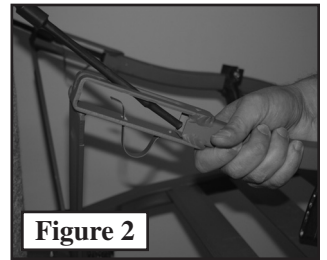

Figure 2
B. Take one end of the cable and begin to slide it down into the tubing, as shown in **Figure 2**. Once the cable is easily sliding into the tubing (it helps to bend the cable upward while pushing down on it), you are ready to place it in